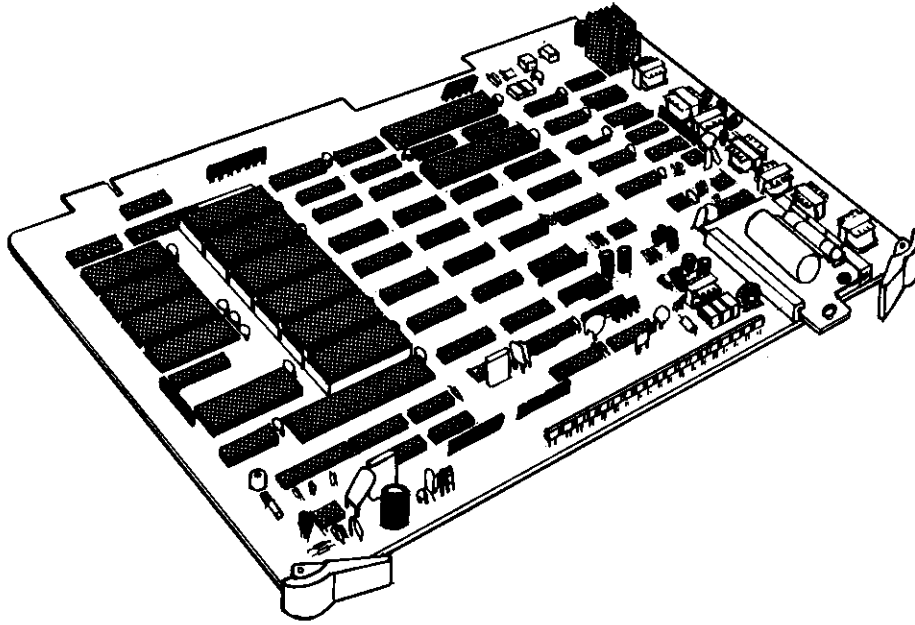

Figure 7-2 MCCU-6TA, EK-616
- (a) **MCCU-6TA (Main Common Control)**, (Figure 7-2) which provides microprocessors for data management; generators for system tones; page amplifiers; and devices for alarm detection, Music-On-Hold and Background Music, and Energy Control System control interface.